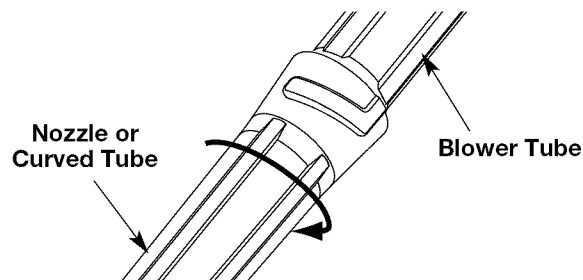

Fig. 4
3. Twist the nozzle clockwise over the blower tube until tight (Fig. 4).